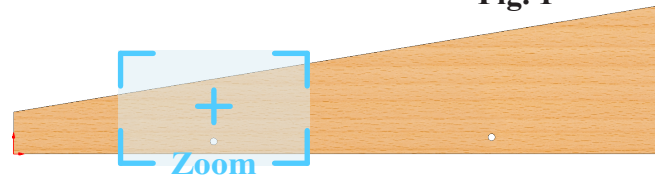

Fig. 2
Step 3. Zoom in around **front of the body at the axle hole**, **Fig. 2**. To zoom, place the cursor over the front axle hole and spin the wheel on mouse back. While spinning the wheel keep cursor on front axle hole.